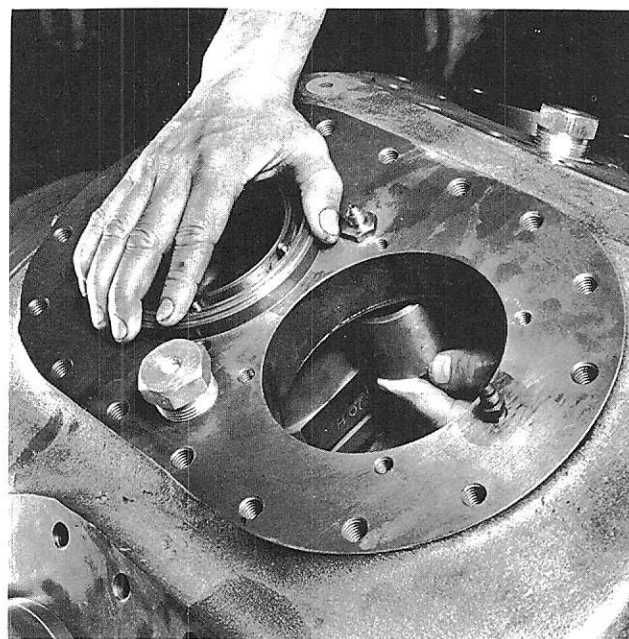

FIG. 30 — INSTALLING CYLINDER SLEEVE AND UNLOADER SLEEVE
4. Using two hands as shown in Fig. 30, lift the unloader power element cylinder and rotate the cylinder sleeve assembly so that the unloader power element